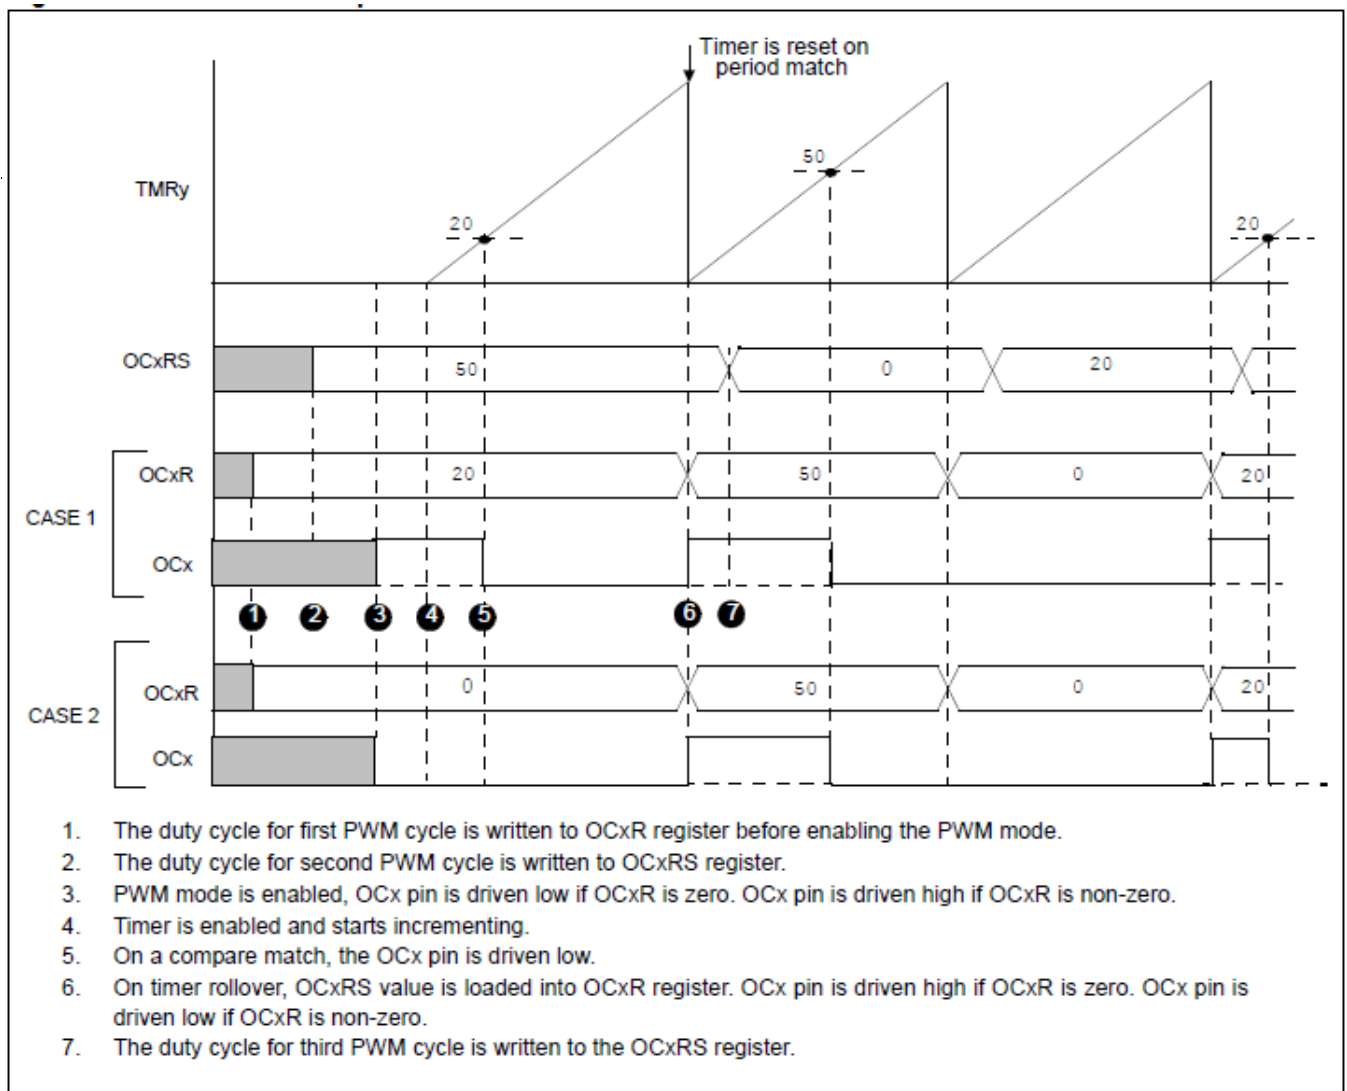

Figure 2: Output Compare Operation: PWM mode
mode without fault protection” will be used in the labs. Figure 2 illustrates the output compare operation in this mode. It works as follows:
- **Driven high** if the OCxR register value is **non-zero** (refer to Case 1 in Figure 2)
- **Driven low** if the OCxR register value is **zero** (refer to Case 2 in Figure 2)